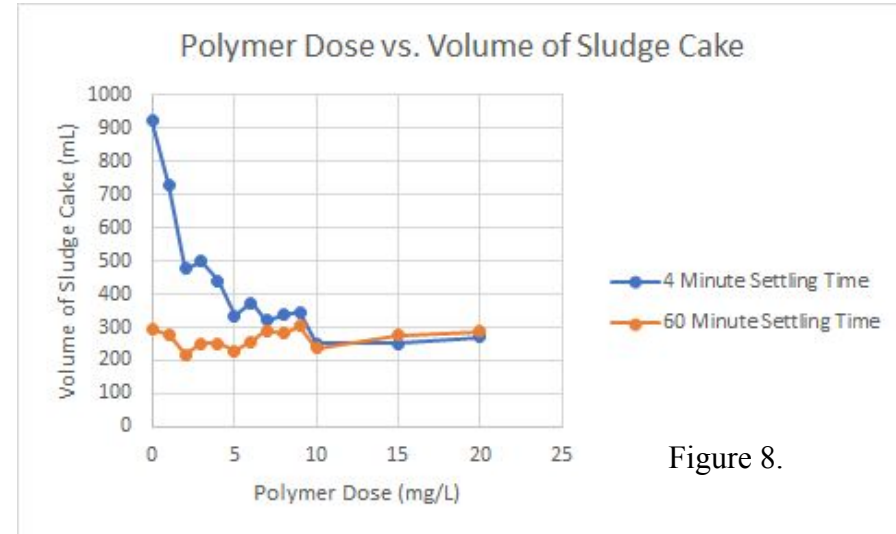

Figure 8.
- Figure 8. Group 4. *Sludge Settling Data*. 2021, graph of data polymer dose vs volume sludge cake, Bozeman, Montana.